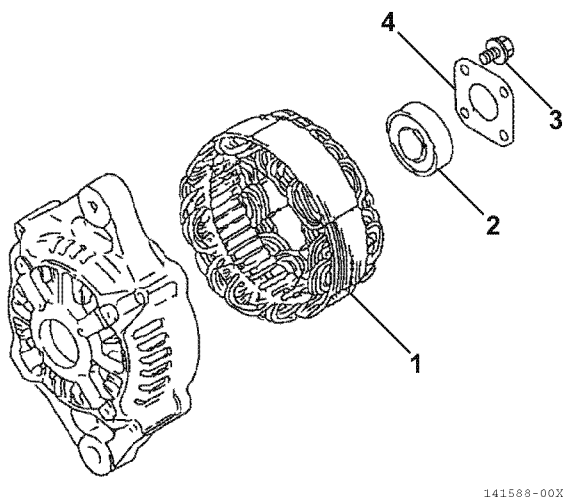

Figure 12-11
9. Remove the stator assembly (1, **Figure 12-11**) from the front frame housing.
10. If it is necessary to replace the bearing (2, **Figure 12-11**) in the front frame housing, remove the four bolts (3, **Figure 12-11**) securing the plate (4, **Figure 12-11**) to the front frame housing. Remove the plate. Use a puller to remove the bearing. Discard the bearing.